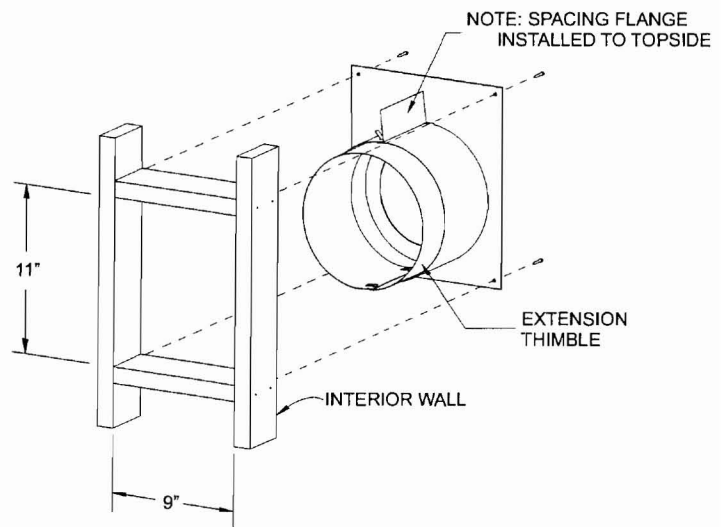

Figure 1
2. Cut hole in wall for wall thimble/firestop assembly (Figure 1) into your combustible wall. Note: On brick or block exterior wall a 7" (178mm) diameter hole needs to be cut.
Measure the total wall thickness to determine whether or not the extension thimble is to be used. If the combustible wall depth is over 5 3/8" (137mm), then the extension thimble should be used (Figure 1).
3. Install the wall thimble assembly through the framed opening so the firestop plate is on the interior wall (Figure 1). Telescope section should extend all the way through the exterior wall. Attach with (4) 10 x 1" screws.